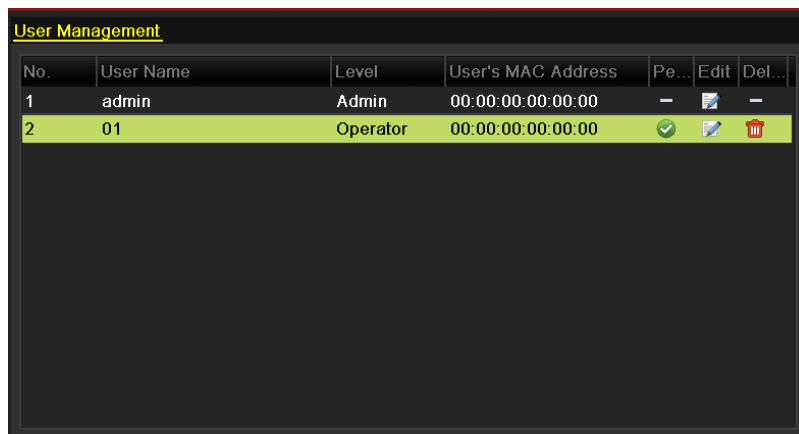

Figure 16.9 User List
2. Select the user to be edited from the list, as shown in Figure 16.9.